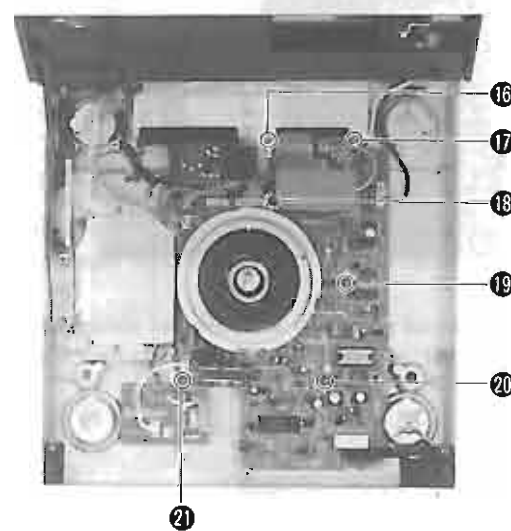

Fig. 8
2. Remove the shield cover setscrew ⑮ and drive circuit board setscrews ⑰ ~ ⑳. (See Fig. 8)